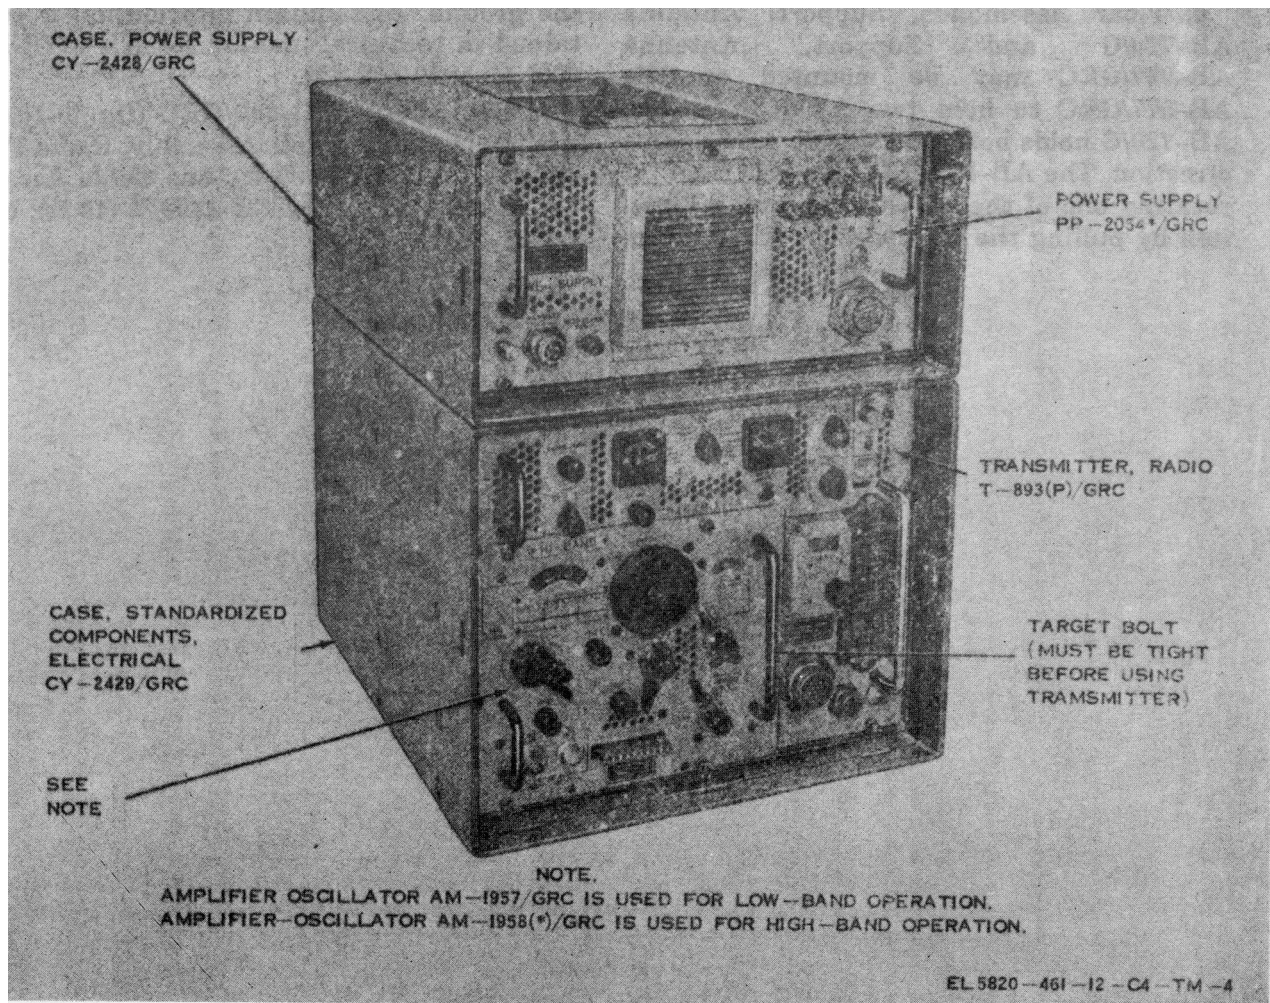

Figure 1-4. Transmitting equipment, major components.
a. The transmitter portion of the radio set is illustrated in figure 1-4. Nylon slides on the inside of each equipment case permit the components to slide easily in and out of the cases. Transmitter, Radio T-893(P)/GRC contains a square opening in the lower left side for the installation of Amplifier-Oscillator AM-1957/GRC or Amplifier-Oscillator AM1958(*)/GRC.